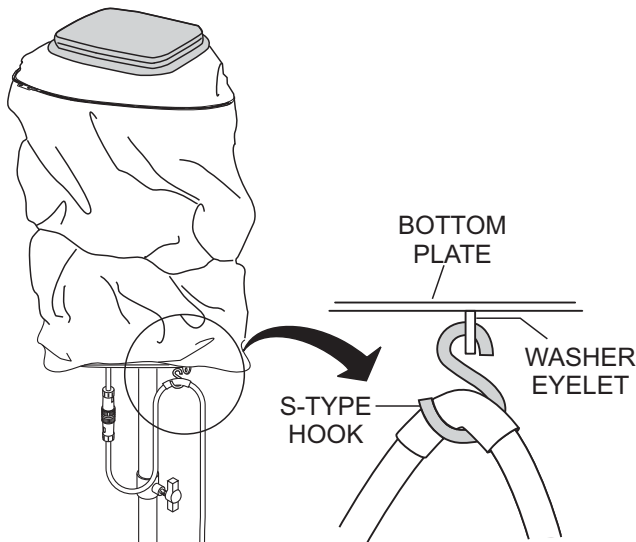
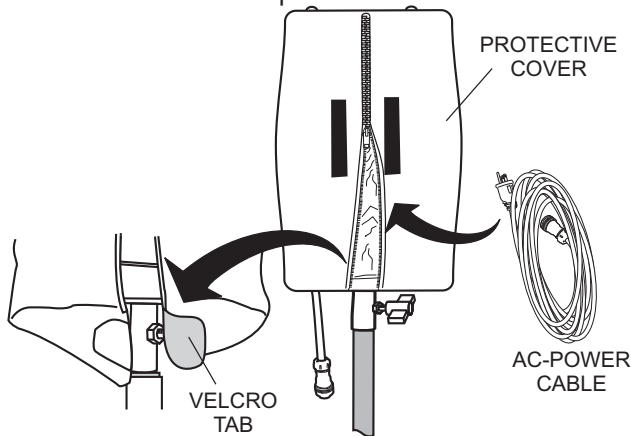

Figure 15. Securing Power Cord
Figure 21. Unzipping the Protective Cover
- Attach the S-type hook (Figure 15) on the AC power cable onto the washer-eylet located on the bottom plate of the light assembly.
- Un-hook lamp AC power cable from washer eyelet (Figure 15). Place the AC power cable inside the protective cover (Figure 21). Fully zip protective cover and fold velcro tab in place.